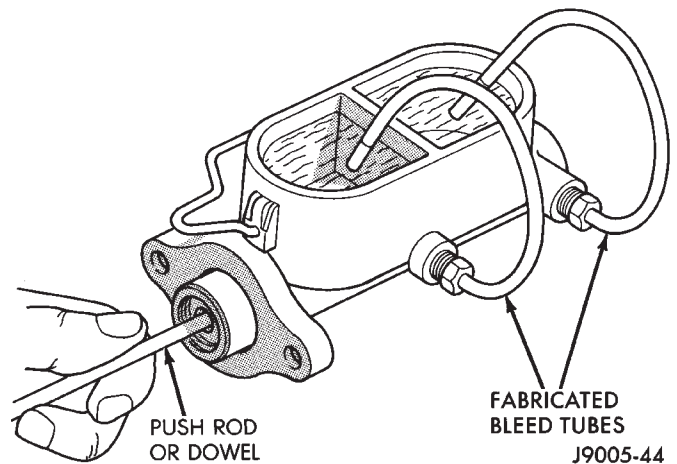

Fig. 6 Master Cylinder Bleeding
- (5) Fill master cylinder reservoirs with brake fluid.
- (6) Fabricate and install bleed tubes in master cylinder (Fig. 6). Be sure tube ends are submerged in
(7) Using push rod or wooden dowel (Fig. 6), press pistons fully into bore and allow pistons to return under spring pressure. Repeat this operation until air bubbles cease to appear in fluid.
(8) Remove bleed tubes. Cap outlet ports and install reservoir cover and seal.